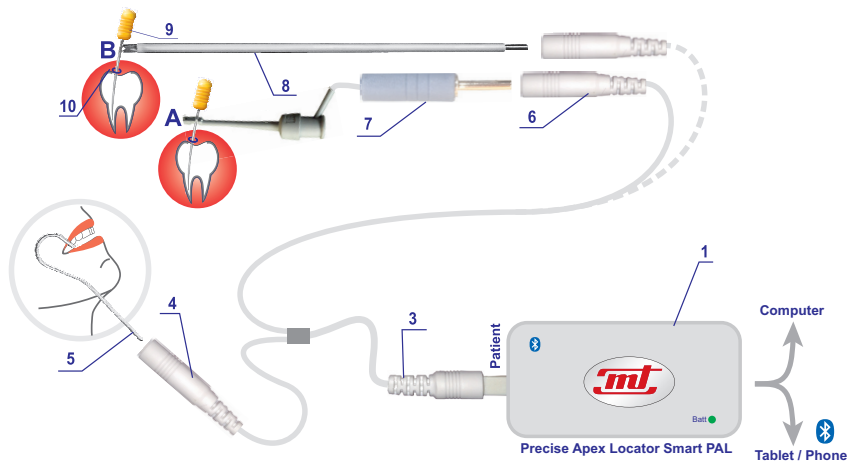

Fig. 4
Attach the lip contact (5) in order to maintain good contact with the oral mucosa (Fig. 4). The crown of the tooth **must be dry**. It is recommended that the canal should be wet for better contact.